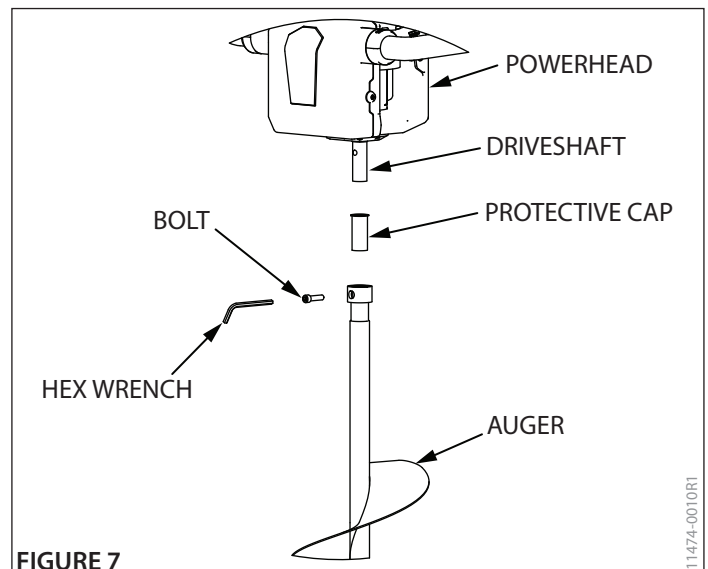

FIGURE 7
- Remove the auger from the powerhead and apply a thin layer of grease to the driveshaft. **SEE FIGURE 7**